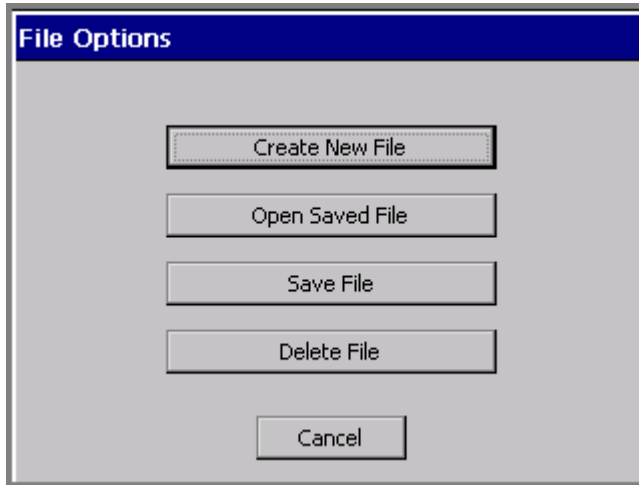

Figure 9-1. The File Options screen.
1. With the unsaved label displayed in the **Editor** window, press **<File Options>**. You'll see the **File Options** screen (Figure 9-1).
1. While in the **Editor** window, press the **<File Options>** key. You'll see the **File Options** screen shown in Figure 9-1 on page 9-4.
2. On the **File Options** screen (shown in Figure 9-1 on page 9-4), choose **Delete File**. You'll see the **File Groups** screen (Figure 9-5 on page 9-8).